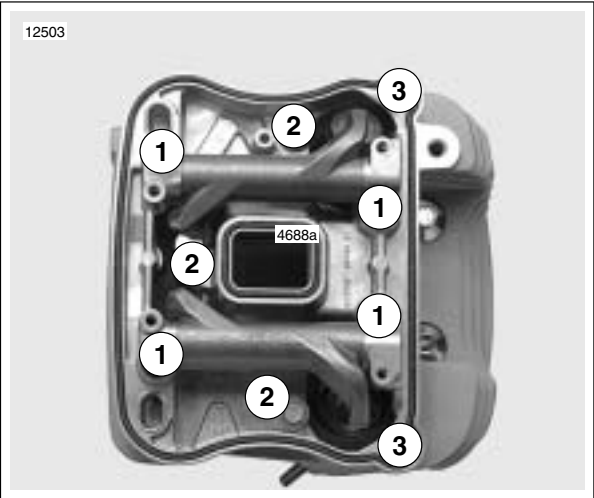

Figure 3-84. Lower Rocker Box Fasteners
- 9. See Figure 3-84. Install **new** gaskets. Place lower rocker box assembly (with rocker arms and shafts) into position. Place push rods in rocker arm sockets.
- 10. See Figure 3-84. Install hardware attaching lower rocker cover to cylinder head in the following order. After loosely installing all fasteners, use a cross pattern on the four large bolts that fasten the lower rocker box to head to tighten and then torque to specifications. This will bleed the tappets. Finish tightening remaining fasteners. Fastener sequences, sizes and torque specifications are listed in Table 3-21.
- a. Tighten bolts (1) to 18-22 ft-lbs (24-30 Nm).
- b. Tighten bolts (3) to 135-155 **in-lbs** (15-17.5 Nm).
- c. Tighten screws (2) to 135-155 **in-lbs** (15-17.5 Nm).